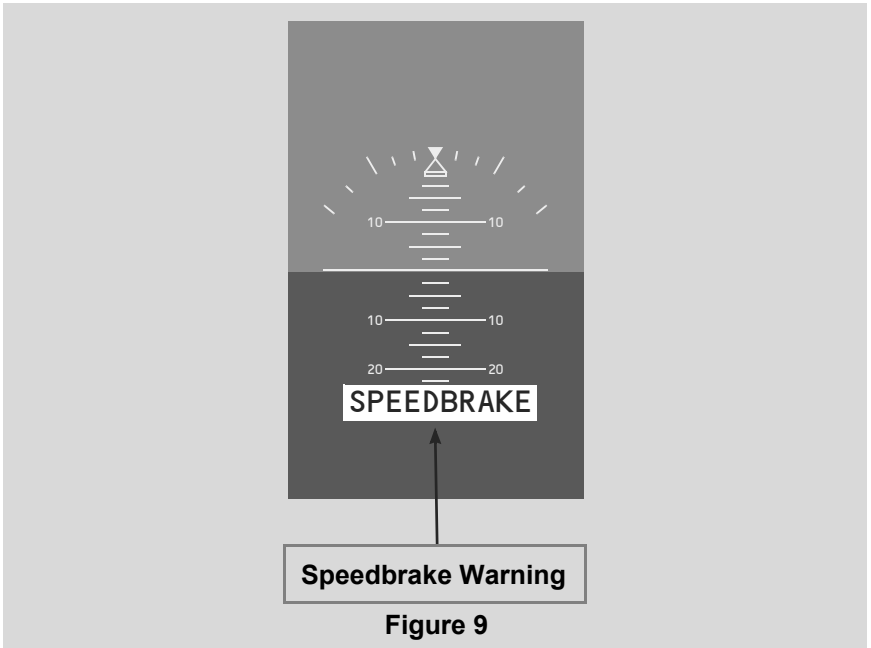

Figure 9
- SPEEDBRAKE Warning (aural and visual) can alert, if this option is installed (figure 9)